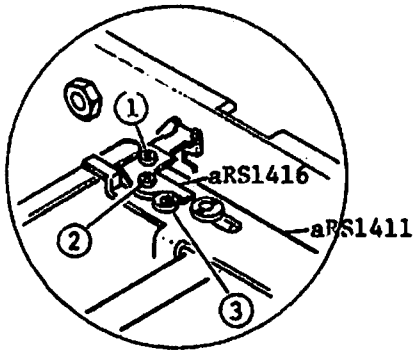
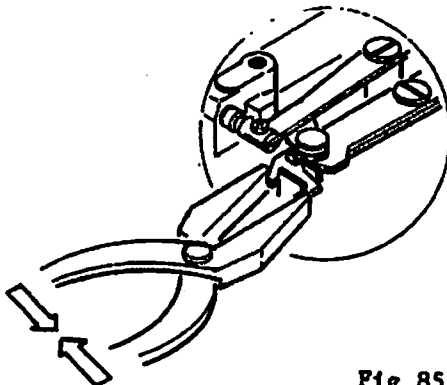

Fig.83
Fig. 85
- (1) Loosen Set screw 1 , 2 and 3 for Release plate supporter (aRS1416) fastened with Release plate (aRS1411) as shown in Fig. 83.
- (2) Insert Stop lever clearance gauge (aRS-13) into the lug of the body and Stop lever, then move Release plate supporter (aRS1416) so that the shutter button does not work.
- (3) Tighten Set screw 1 and 2.
- (4) Support Set screw 3 with Eccentric stopper (RS1545) and tighten it.
- (5) Check the clearance (1.7mm).
- (6) Apply Screw lock to Set screw 1 , 2 and 3.
- (7) Use a pincers to tighten the edge of Sub lever (aRS1416) so as not leave gaps between the edge of sub lever and Release plate supporting (aRS1516) as shown in Fig. 85.